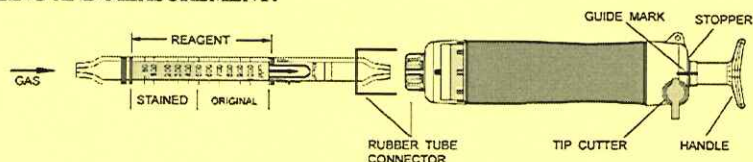

Fig.1
- ② Insert the detector tube into the aspirating pump securely as shown in Fig.1. (Arrow mark shall point to the pump.)
- ③ Align the guide marks on the shaft and stopper of the aspirating pump.
- ④ Pull the pump handle at a full stroke until it locks and wait for 3 minutes or until the completion of sampling is confirmed with the flow indicator of the pump. (See descriptions about the flow indicator in the instruction manual of the pump.)
- ⑤ On completion of sampling, read the scale at the maximum point of the stained layer.